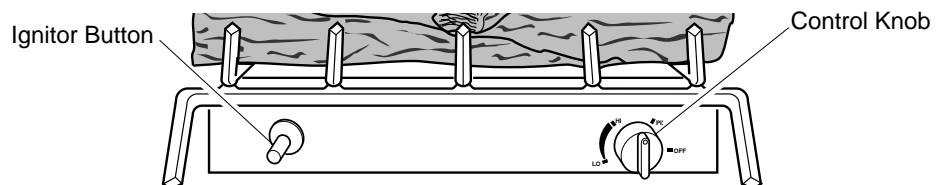

Figure 20 - Control Knob and Ignitor Button Location
4. Wait five (5) minutes to clear out any gas. Then smell for gas, including near the floor. If you smell gas, STOP! Follow “B” in the safety information on page 21. If you don’t smell gas, go to the next step.
5. Slightly depress and turn control knob counterclockwise  to the PILOT position. Keep control knob pressed in for five (5) seconds (see Figure 20, page 21).